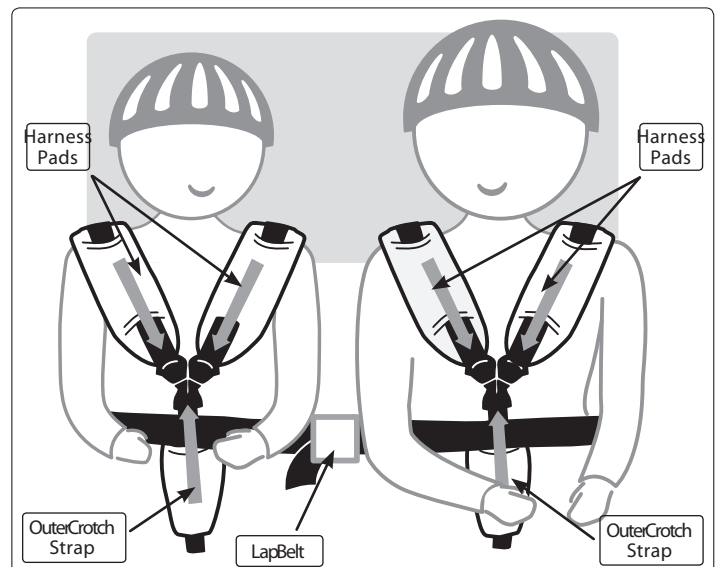

FIGURE 5
4. Fasten and adjust lap belt snugly. To remove children, release lap belt and harness buckles. FIGURE 5